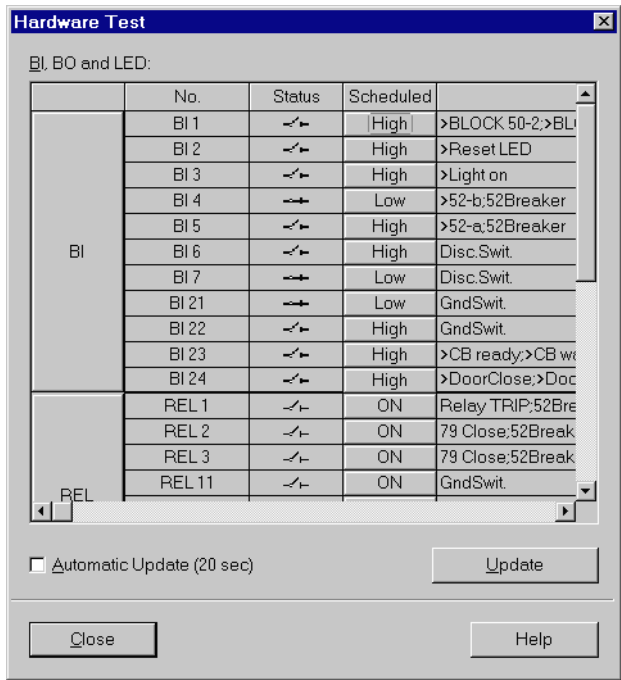

Figure 8-13 Dialog Box for Hardware Test
- ☐ Double-click in the list view on **Hardware Test**. The dialog box of the same name opens (see Figure 8-13).